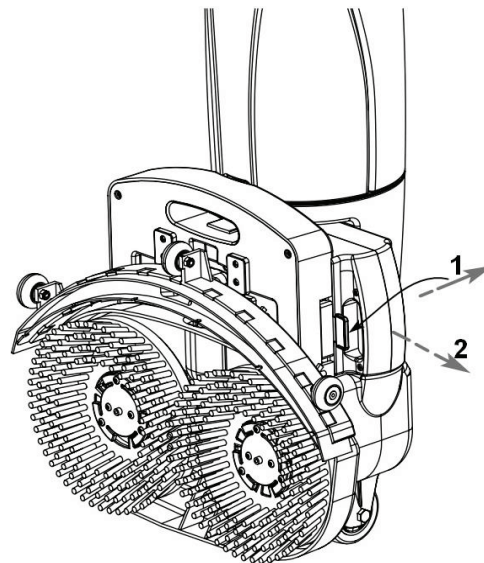

Fig6-6
6-6 Remove of battery: figure 6-6
1. As shown in Figure 6-6, pull the battery buckle to the direction of 1
2. As shown in Figure 6-6, pull out the battery in the direction of 2.